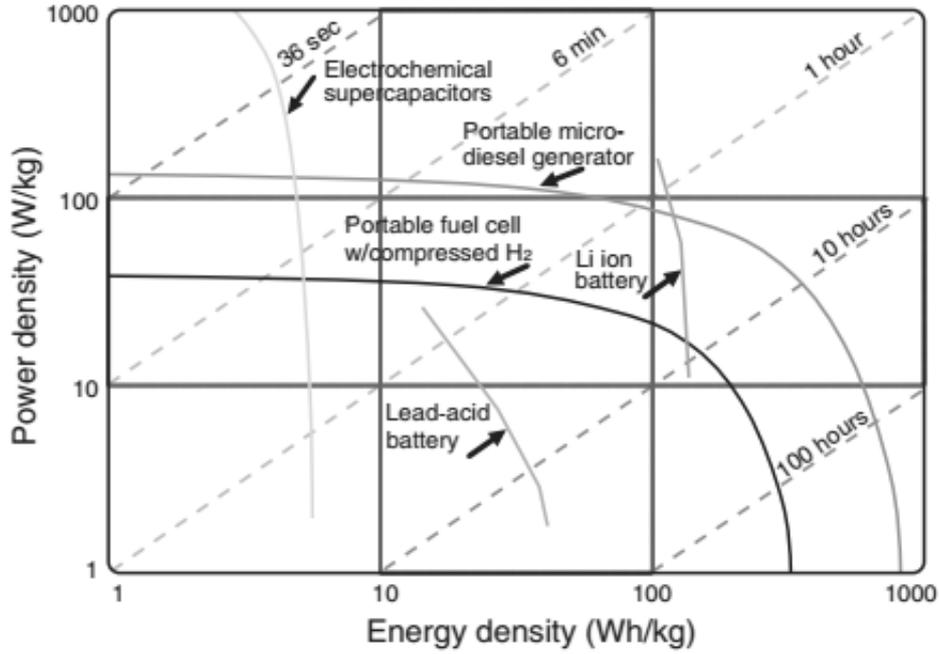

Figure 2: An example of a Ragone plot (From O'Hayre et al, 2016)
b) Ragone plot shows the trade-offs between system power density and energy density. It can be used to compare different energy-storing devices. An example of a typical Ragone plot for various devices is shown in Figure 2. The desired characteristics of the system can be optimized with the help of the diagram. A system that needs to be as low-weight as possible should have a high power density and a system with small size a high energy density. The plot shows different operating times as dashed lines. Based on these three main characteristics in the plot one can choose the appropriate energy storing device for different needs. The lifetime of the device can be directly seen from the x and y axis values: $t = \text{energy density}/\text{power density}$.